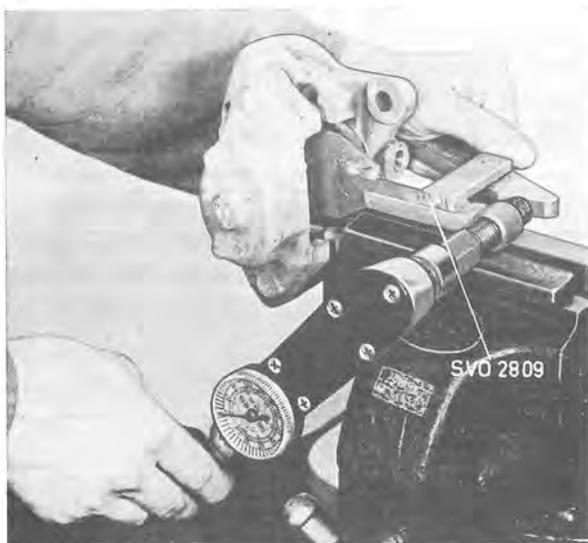

Fig. 5-29. Checking the A.S.B.-device
3. Fit one of the pistons in the caliper. Make sure that the piston does not come at a slant and is scored or that it damages the pin for the A.S.B.-device. Press in the piston with tool SVO 2809. Check the A.S.B.-device for stiffness with a torque wrench, see Fig. 5-29. The force required to press in the piston should be between 20—80 kpcm (17—70 lb.in.). If the force required is otherwise, the piston must be replaced.